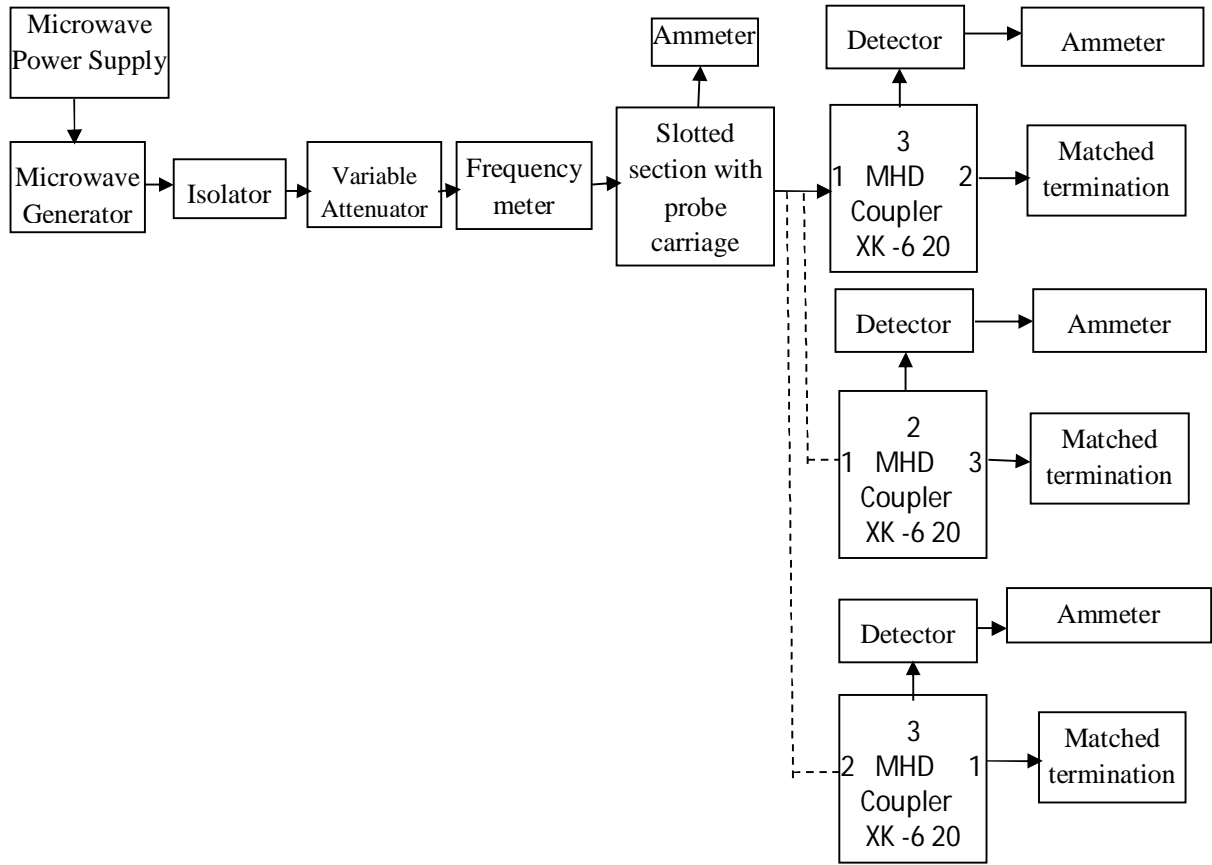

Fig .8.1 Experimental setup of study of MHD Coupler (Transmission Coefficients)
1. Set up the equipments as shown in Fig.8.1.
8. Without disturbing the set up replace the tunable detector with the given MHD coupler, with its port1 connected as shown in figure8.1. Connect port2 and port3 with matched terminations and port4 with a tunable matched detector and micro ammeter. Note the micro ammeter reading (I₄).